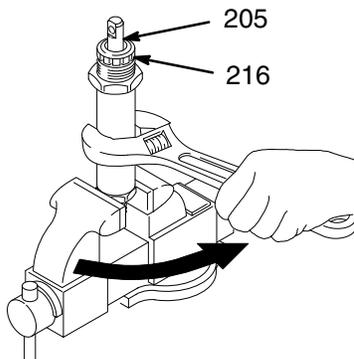

Fig. 16
1. Loosen the packing nut (216) and remove plug (205). Unscrew the cylinder from the intake valve. See Fig. 16.